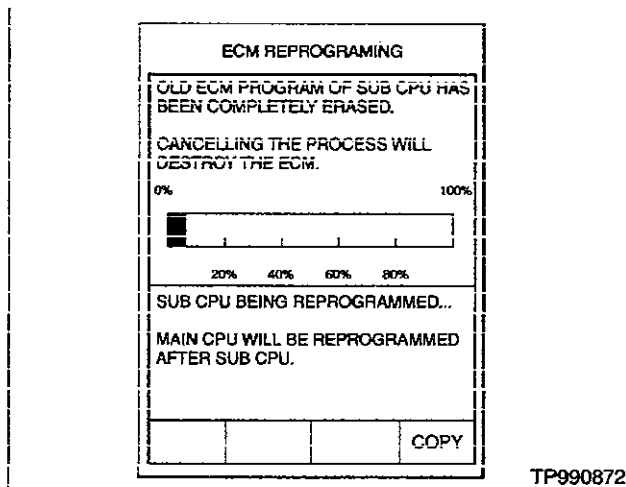

Figure C11
19. Press "START". After a moment the window shown in Figure C11 (next page) will come up. CONSULT-II will now turn OFF its screen "backlight" and begin to reprogram the ECM.